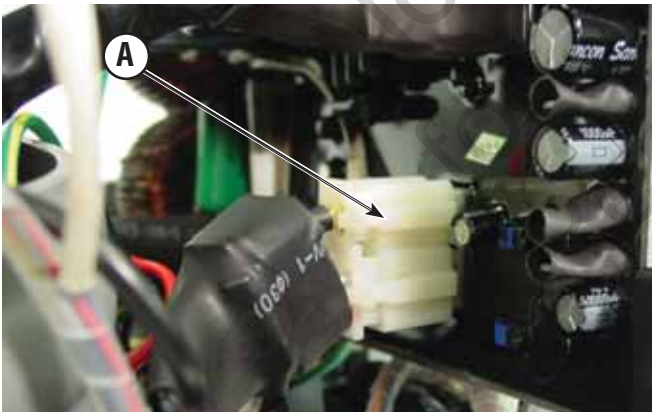

Figure 38
1. Disconnect wires from inverter and locate the connector (A, Figure 38).